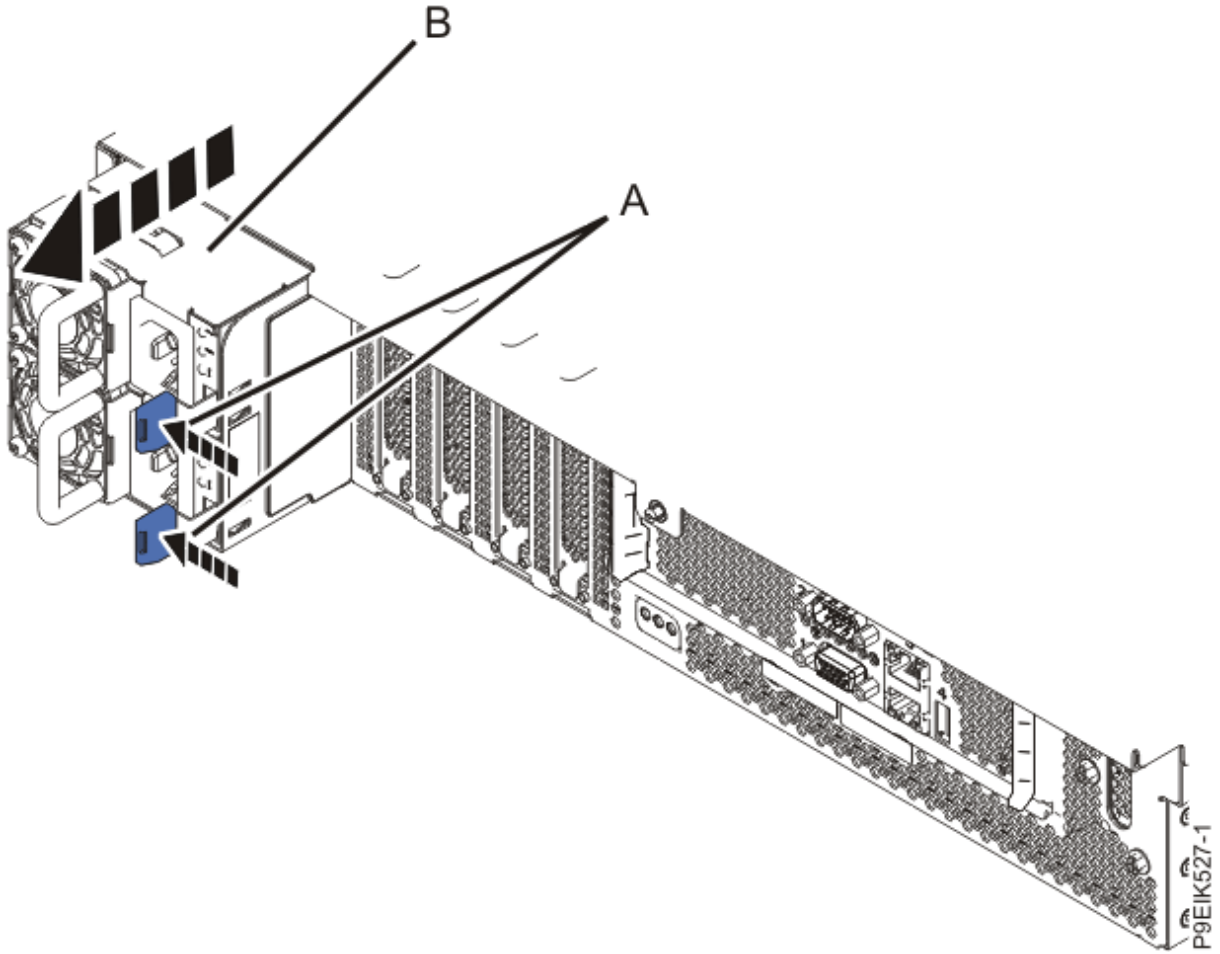

Figure 25. Removing the power supplies from the system
9. Remove the power supplies from the system as shown in Figure 25 on page 35.